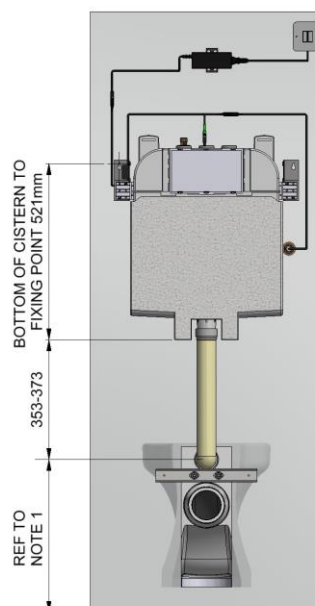

Fig: 1
2. Mark wall position so the cistern is vertically central to WC pan and at a height as shown on fig 1.